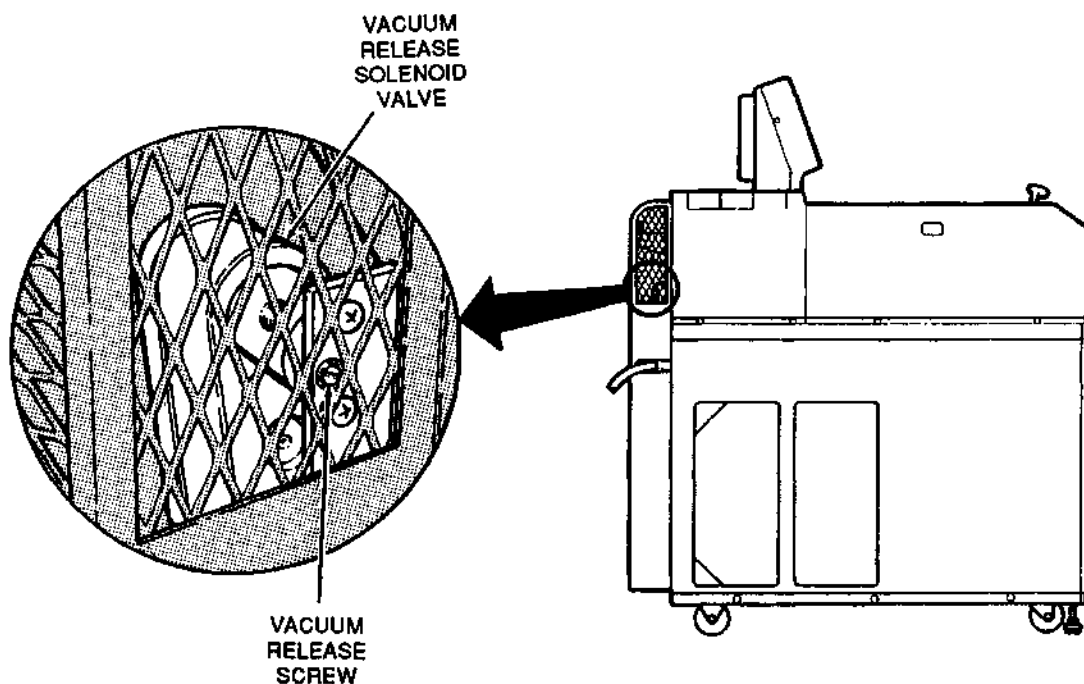

Figure 7-4. Vacuum Release Solenoid Valve Location
3. Locate the vacuum release solenoid valve (figure 7-4). Insert a screwdriver through the grille on left side of back panel, and turn vacuum release screw fully clockwise (approximately 4 to 5 turns). Air will begin to enter chamber.